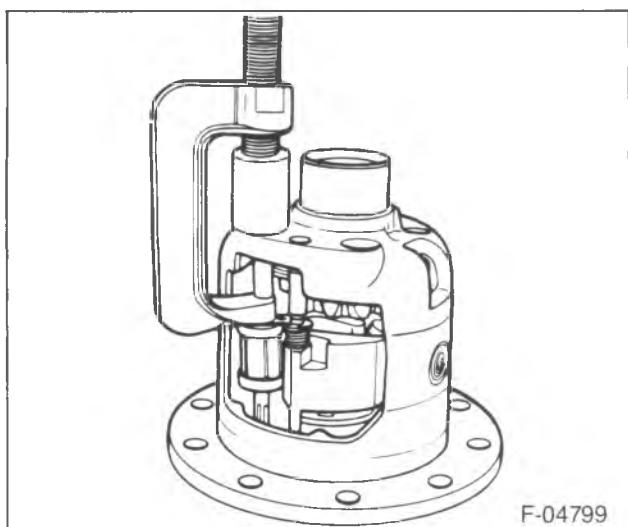

Figure 2—Removing the Governor Bushings
- 1. Governor bushing (4) using J 26252 (figure 2).
- 3. Latching bracket bushing (5) using J 26252.
- 4. Latching bracket (11), shaft, and spring from the case.
- 5. Governor assembly (11) from the case.
- 6. Stop pin (2). (9½-inch only.)
- 7. Lockscrew (3).
- 8. Pinion shaft (18).
- 9. Differential pinion gears (7) and pinion thrust washers (6).
1. Cam plate (16) to the cam side gear (21).
- Alternate the plates as shown in figure 2.
5. Guide clips (20) to the plates.